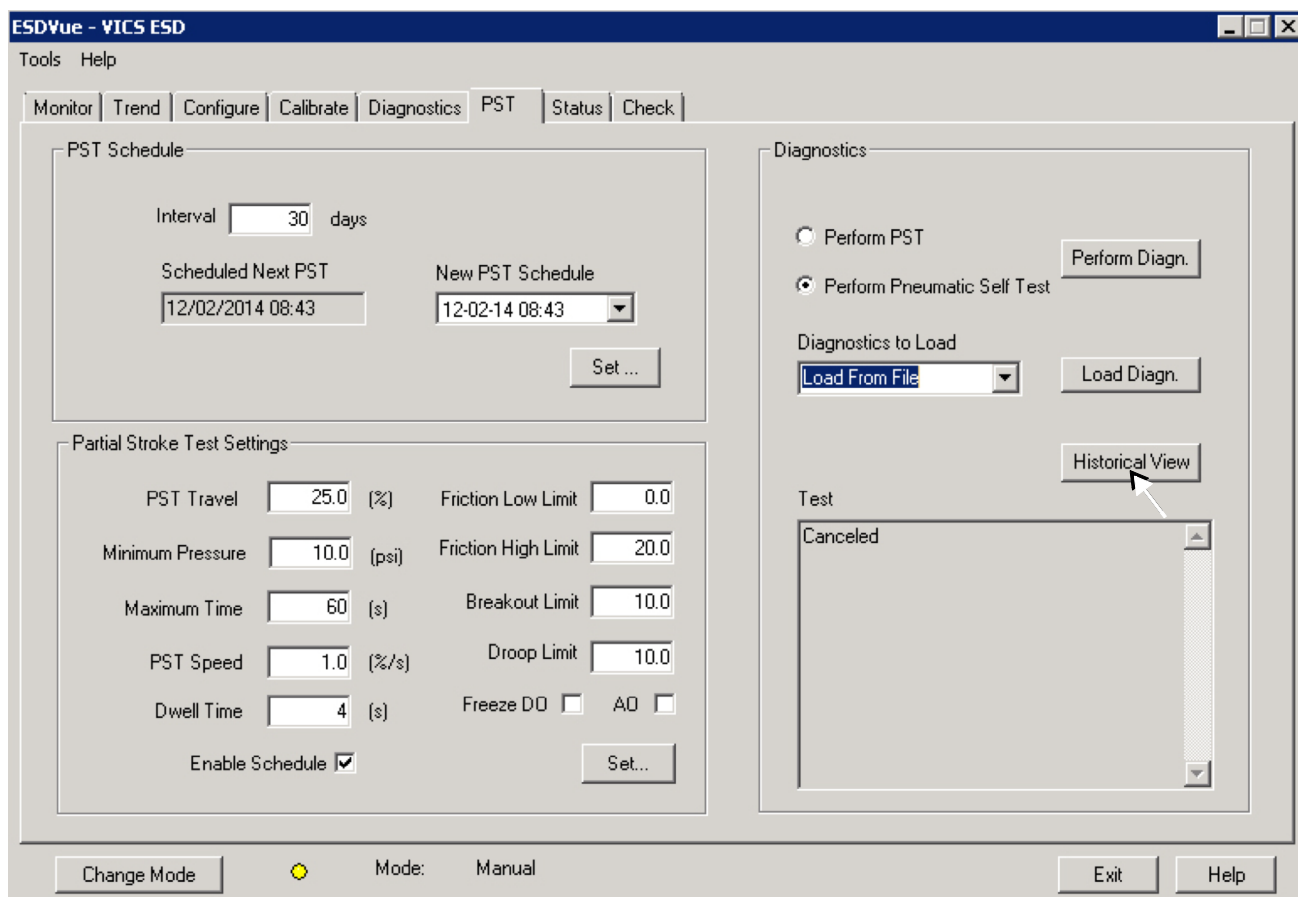

Figure 294 - Selecting Historical View
1. Click **Historical View** (Figure 294).